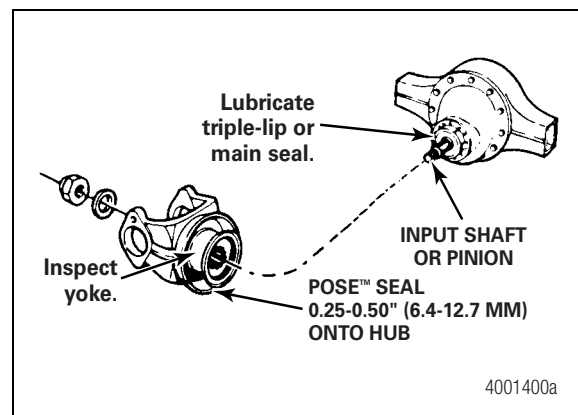

Figure 5.1
3. Install the POSE™ seal onto the yoke or the flange hub by hand. The lips of the seal must face toward the end of the hub, opposite the shoulder. Slide the POSE™ seal onto the hub until the lips are 0.25-0.50-inch (6.4-12.7 mm) from the end of the hub. Do not install the POSE™ seal against the shoulder. Figure 5.1.